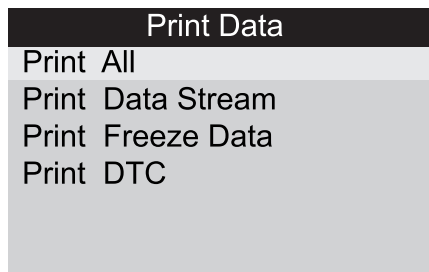

Figure 5.2
4) Use the **UP/DOWN** scroll button to select **Print Data** from **Main Menu** in the scan tool , and press the OK button. (Figure 5.2)